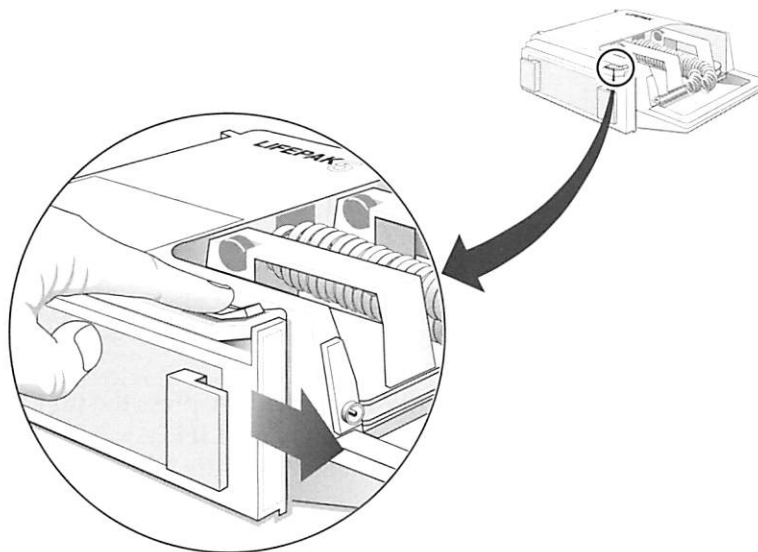

Figure 6-7. The LIFEPAK interface lever
- 2 Press the lever on the side of the LIFEPAK (Figure 6-7) and slide the interface forward until it is free from the defibrillator.